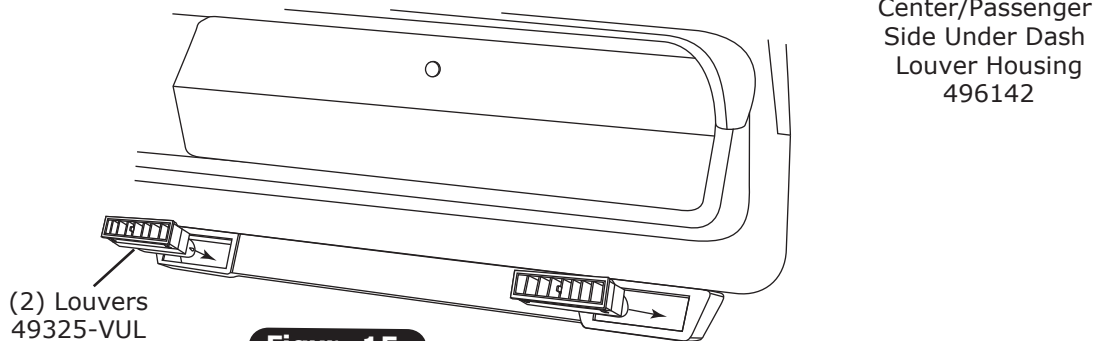

Figure 15a
3. Install louvers into housing as shown in Figure 15a, below.